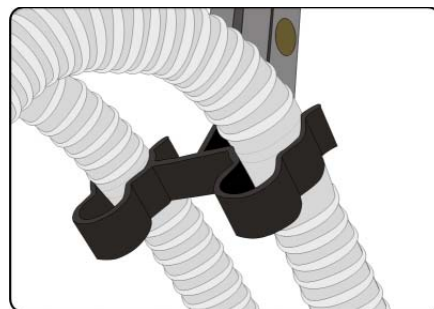

Figure 196: Twin Tube Holder
4. Insert the patient circuit into the twin tube holder, as shown in Figure 196